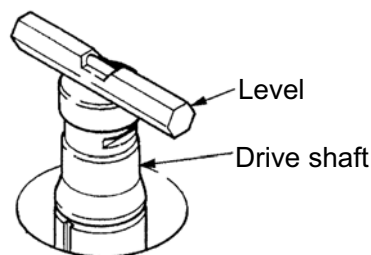

Fig.6-4 Level Placement
- (3) Place the level across the top of the drive shaft in the rotor chamber (see Fig. 6-4). Turn the four leveling screws until the bubble in the level indicates the instrument is level.
- (4) When the instrument is level, check that the four leveling screws are secured to the floor.